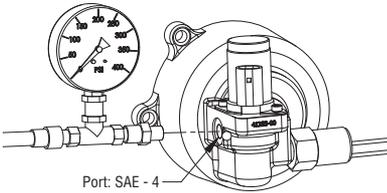

Figure 1 - Piston Port Connection
- b) Install a 400 PSI pressure gauge at the piston port of the FR66 PTO as shown in figure 1 below.